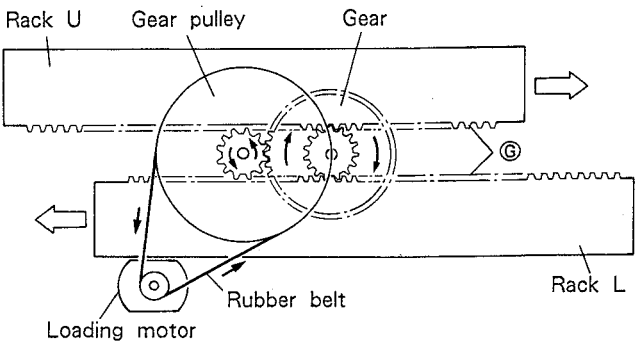

Fig. 10-4.
The power transmission route is shown in Fig. 10-4. The rotation of the loading motor is transferred by rubber belt, gear pulley, and gear, and is transmitted to the linear gear section ③ of rack U and rack L positioned above and below the gear.